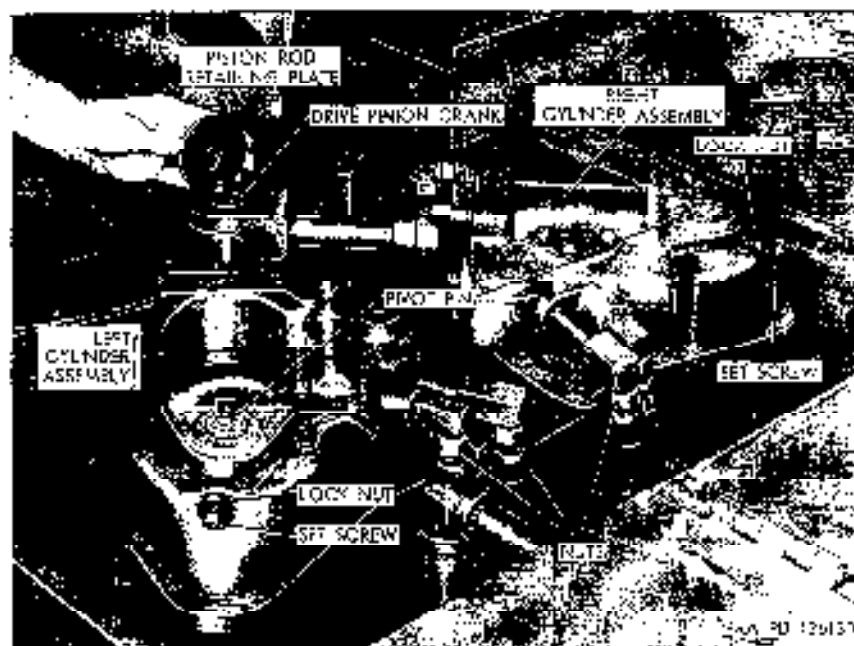

Figure 301. Removing piston rod retaining plate from drive pinion crank.
- (4) Unscrew lock nuts (fig. 301) securing hydraulic lines to elbows installed in swing-hydraulic-motor cylinder assemblies, and remove lines from elbows.
- (5) Loosen two locknuts (fig. 301) and setscrews securing pivot pins in mounting brackets welded to base plate, and drive pins from cylinder bodies and brackets, and remove from underside of base plate.
- (6) Pivot each of the cylinder assemblies on the drive pinion crank to free the cylinder bodies from the mounting brackets. Lift the two cylinder assemblies together from the drive pinion crank. Pull the piston rods apart to separate the cylinder assemblies.
- (1) Position right cylinder piston rod over left cylinder piston rod, and install piston rods on drive pinion crank (fig. 301).
- (2) Position piston rod retaining plate (fig. 301) on crank, secure with two cap screws, and install new locking wire.
- (3) Pivot both cylinder assemblies on the drive pinion crank, and align pivot pin holes in cylinder bodies with holes in mounting brackets. Install pivot pins (fig. 301) in holes in cylinder bodies and mounting brackets, and secure with setscrews. Tighten the two setscrew locknuts.